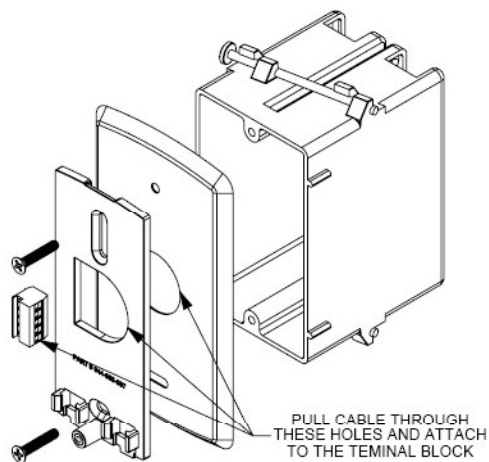

Figure 1-6 Single Gang Box Mount Assembly
- Figure 1-6 Single Gang Box Mount Assembly6